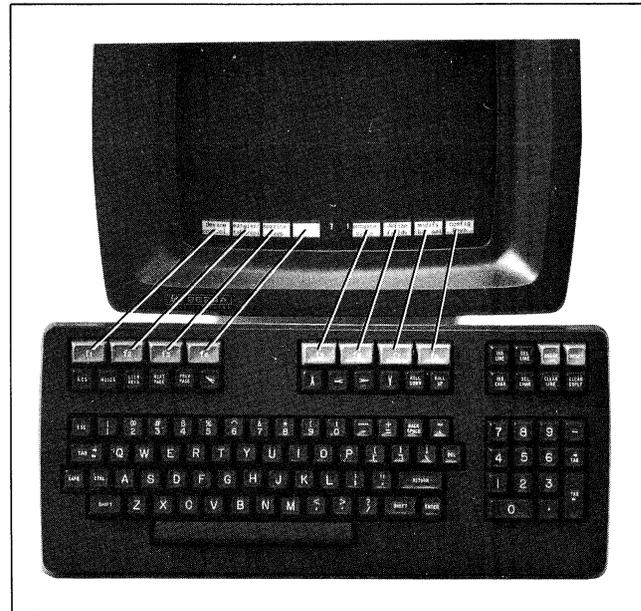

Figure 3-1. Screen-Labeled Function Keys
- **Function Key Group.** This group includes the eight keys labeled "f1" through "f8" and the keys labeled "AIDS", "MODES" and "USER KEYS". The **f1** -- **f8** keys are multipurpose keys in that the functions they perform vary from one situation to another. At any given time the applicable labels for the function keys are displayed across the bottom of the screen (figure 3-1).